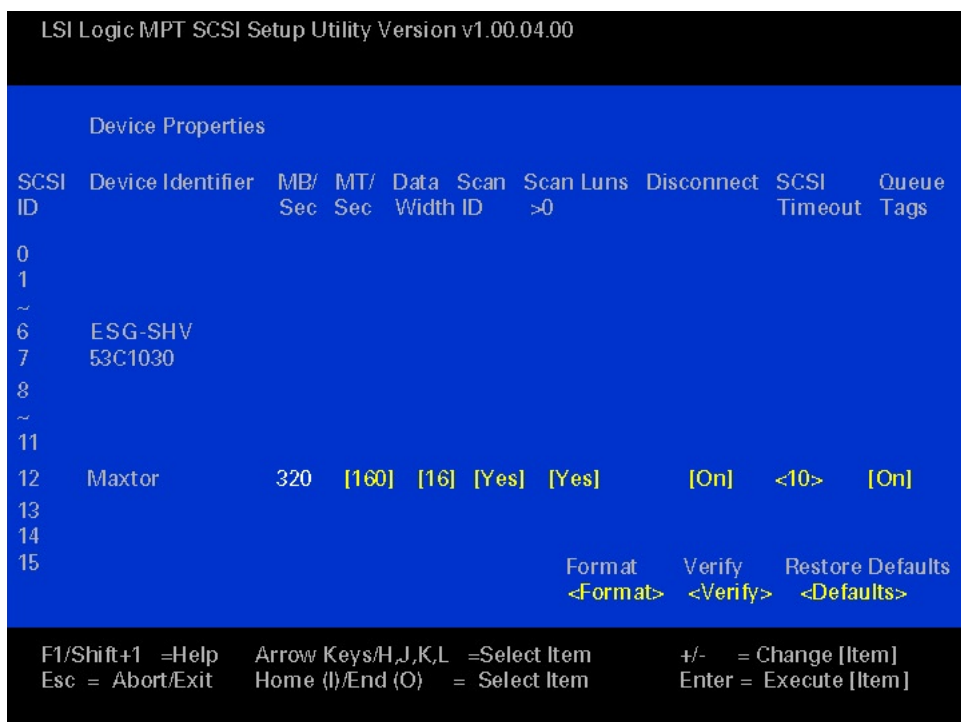

Figure 23. LSI SCSI Device Properties Screen
- Use the arrow keys to highlight Device Properties; press <Enter> to view and change the device properties. As shown by Figure 23, the screen displayed shows a list of devices found on the internal channel. Information includes the SCSI IDs and associated settings.